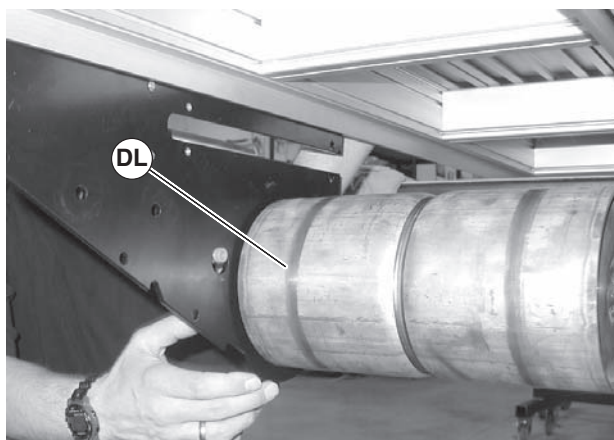

Figure 103
11. Slide drive pulley (Figure 103, item DL) out of attached side plate.